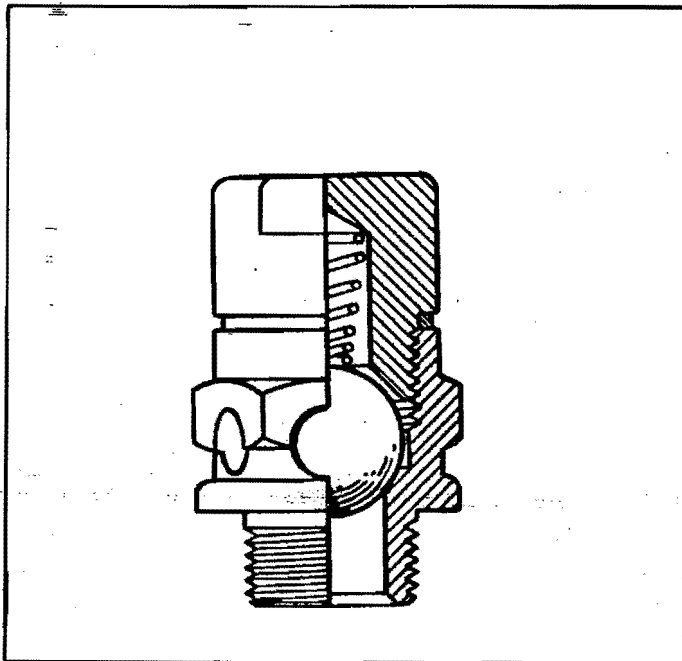

Figure 4-22. Depreservation Valve
a. Install a Depreservation Valve [Figure 4-22] in the lower most sparkplug hole of the following cylinders: 4-5-6 and 7. Refer to "Initial Ground Run," paragraph 4-60, for engine operating instructions, using depreservation valves. Depreservation Valves are useful in removing fluid from the combustion chamber and intake pipe of the cylinder in which they are installed. The valve is a check valve so constructed as to allow complete suction through the intake pipe on the intake stroke and to allow expulsion of any excess fluid within the combustion chamber on the compression stroke. Sparkplugs are to be installed in the balance of the sparkplug holes.